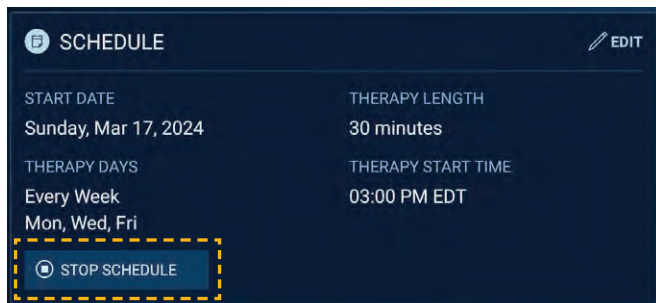

Figure 37. STOP SCHEDULE button located on dashboard
1. On the dashboard, tap **STOP SCHEDULE** (Figure 37).